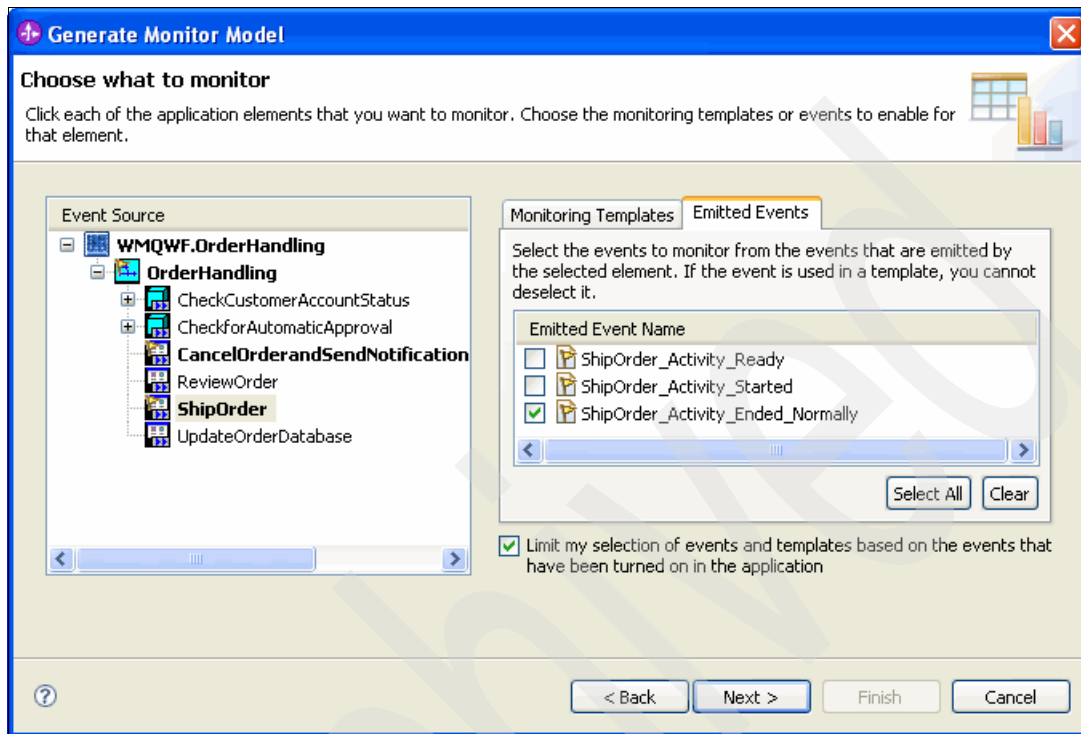

Figure 8-52 Choosing the emitted event for the ShipOrder activity
- e. Under Event Source, click **ShipOrder**. On the Emitted Events page, select **ShipOrder_Activity_Ended_Normally**. See Figure 8-52.